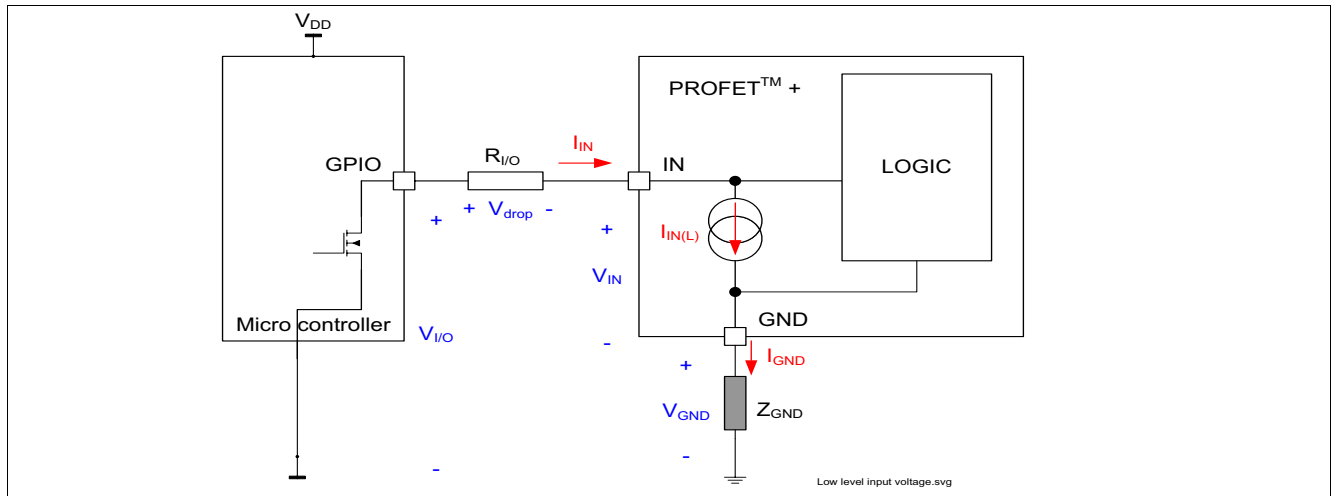

Figure 85 Low level Equivalent Circuit
With an input signal in this region, the digital circuitry will determine the input to be a low logic level and thus will turn the output OFF or keep it OFF. The application must ensure that the maximum voltage applied to the input pin is lower than the  $V_{IN(L)max}$  voltage to guarantee an OFF condition. As umbrella specification, Infineon consider  $V_{IN(L)_MAX} = 1.1V$ . Refer to **Figure 85** for details.
The equivalent circuit is described in **Figure 85** where the  $V_{IOmin}$  value defined by **Equation (18)** must be guaranteed.